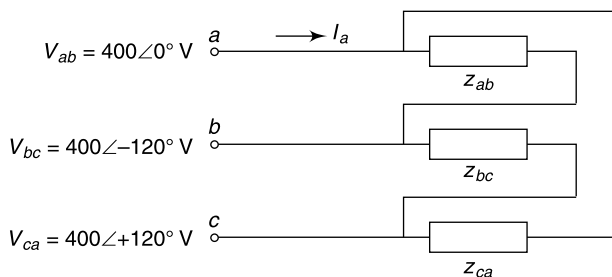

Fig. 7.26 Circuit of Ex. 7.48
7.48 Three impedances, Z_{ab} , Z_{bc} and Z_{ca} , are connected across a balanced 400 V, 50 Hz, 3-phase supply. Find I_a (Fig. 7.26).